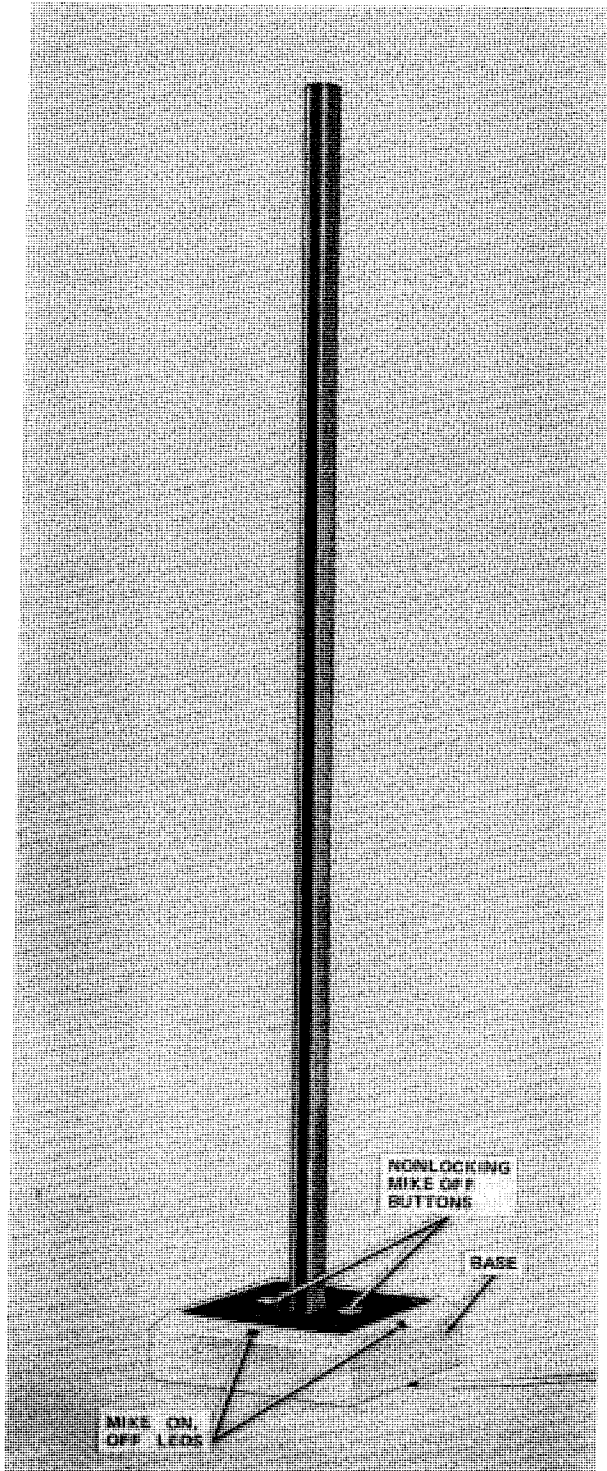

Fig. 2— 1A Microphone
2.01 The 1A microphone is composed of 28 miniature microphones mounted in a polished rectangular 32-inch vertical aluminum mast. The mast has two (2) recessed black vertical stripes, one on each of the narrow sides. The 6-inch square base is ivory and contains four (4) light emitting diodes (LEDs) (MIKE ON OFF indicators), one on each of the top beveled edges. The top of the base is covered with a black faceplate through which the mast and two nonlocking MIKE OFF buttons protrude (Fig. 2).